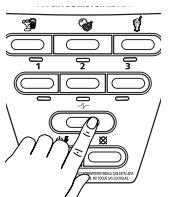

Fig. 26
1. Press and hold the pulse button (Fig. 26).